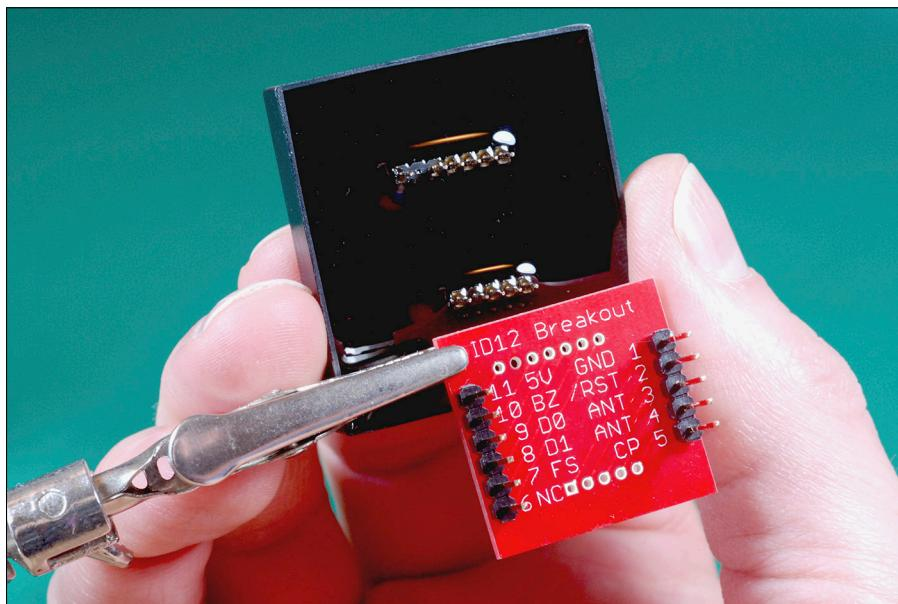

Figure 9-3:
The SparkFun breakout board allows you to work with your reader on a breadboard, and it fits any of the ID Innovations readers (even though it's labeled ID-12). Their pins have a 2mm pitch, so they do not fit into a regular breadboard, which has holes spaced at 0.1" (2.54mm), so you have to use the breakout board for any prototyping. In fact, even if you aren't planning to use a breadboard, the breakout board is handy because the 2mm pins are really pretty inconveniently close together to work with. The breakout board also is registered to fit into the RFID reader in only the correct orientation. One of the pins on the reader is missing, and the breakout board aligns with this missing pin, as shown in Figure 9-3.
- 2. Insert the pins into your breadboard so that they can accommodate the breakout board, as shown in Figure 9-3.**